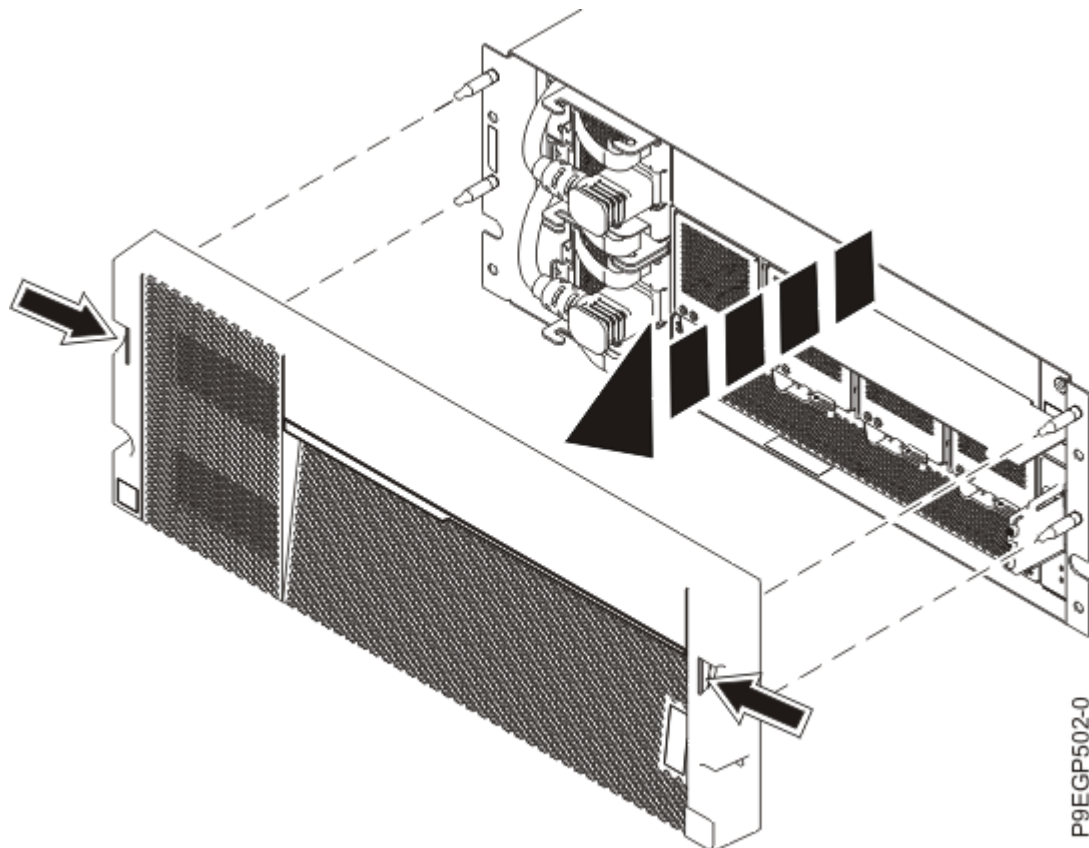

Figure 8. Removing the cover and the service information card
- b. Using the two blue touch points on each side of the drawer, pull the cover straight out to remove the cover from the front of the drawer as shown in Figure 8 on page 12.